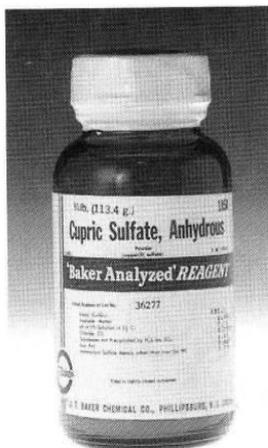

Figure T.3a Chemicals are labeled with systematic names.
- Read the label on a reagent bottle at least *twice* before removing any chemicals (Figure T.3a). The wrong chemical may lead to serious accidents or “unexplainable” results in your experiments (see Dry Labs 2 for an understanding of the rules of chemical nomenclature). Techniques 9 and 10 illustrate the correct procedures for transferring solids and liquid reagents.